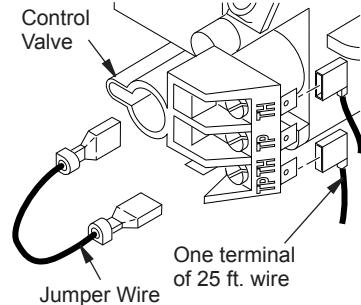

Figure 23 - Connecting Wire Terminals
1. Disconnect jumper wire from control valve (see Figure 23).
2. Connect one terminal of 25 ft. wire to "TPTH" terminal on control valve (see Figure 23).
3. Connect remaining wire terminal to the "TH" terminal on the control valve. Make sure that wire terminals are in the positions on your unit as pictured in Figure 23.
1. Connect one terminal of 25 ft. wire to “TPTH” terminal on control valve (see Figure 23, page 17).
2. Connect remaining wire terminal to the “TH” terminal on the control valve. Make sure that wire terminals are in the positions on your unit as pictured in Figure 23, page 17. If wires are not “crossed” the thermostat will not work.